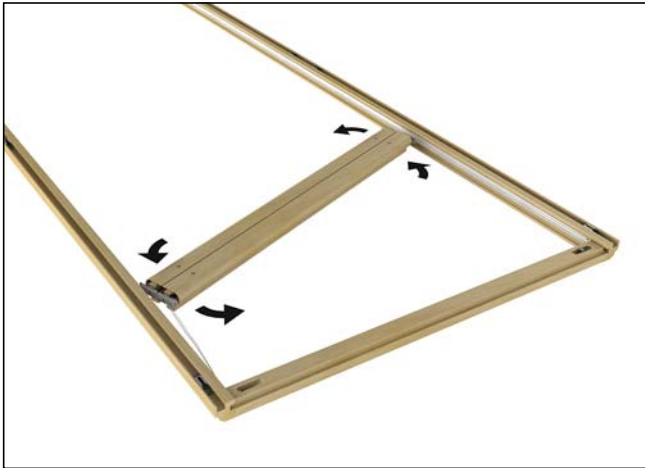

Figure 4
4. Tilt the compressed fabric stack and pull bars out of the surround. See figure 4.